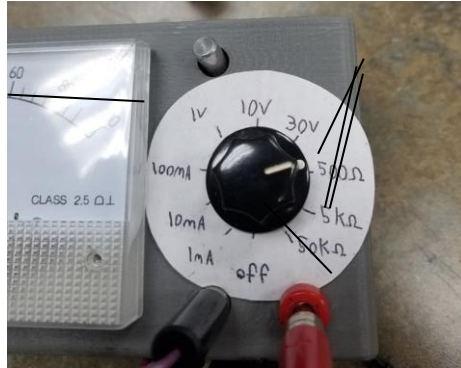

Figure 5-7
1. Turn the rotary switch clockwise until it reaches one of three ranges of resistance (Figure 5-7). These ranges indicate the maximum amount of resistance that the meter can handle. When at max, the dial from the meter will be at the half point.